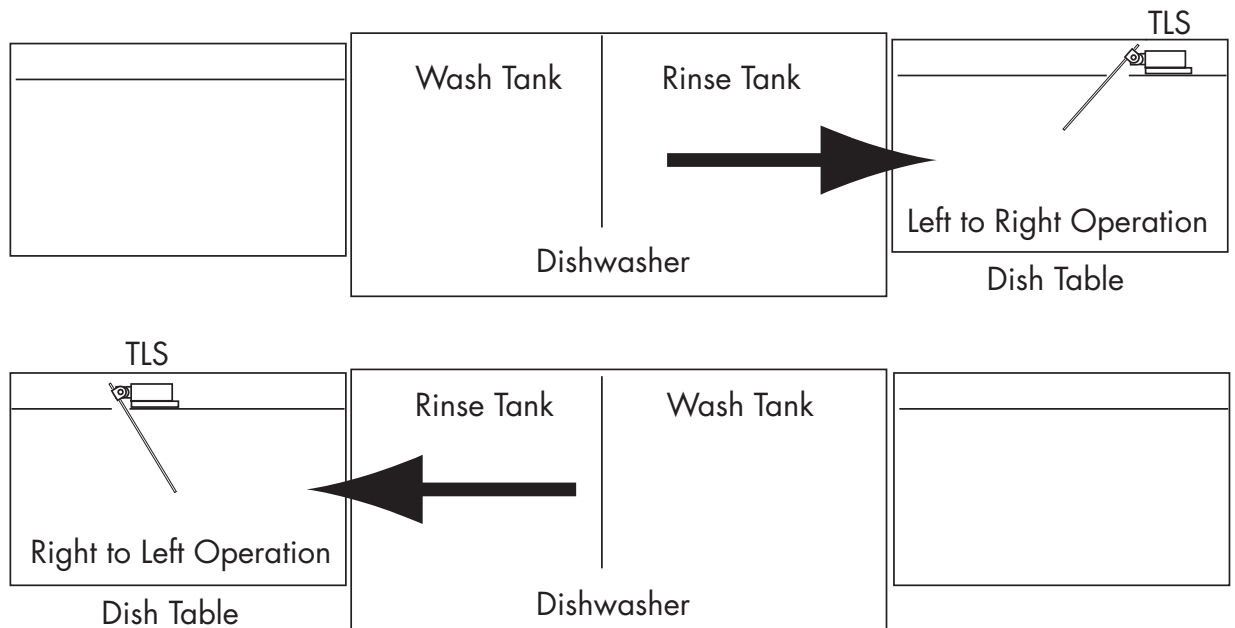

Fig. 3 -
3. Mark and drill the holes according to the direction of operation for your dishwasher (L to R or R to L dishwasher operation). See Fig. 3, *TLS Orientation*, below.